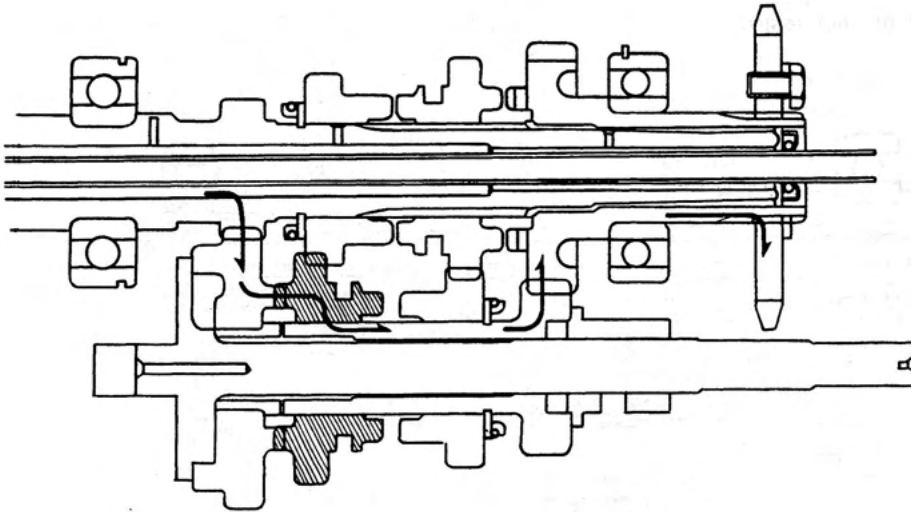

Fig. 3-6. The first
spline on the counter shaft complete can move freely axially, move this to the left side by gear shift fork to mate with low gear (Fig. 3-6) then the low gear combines with the counter shaft as one body to transmit power to the top gear (12). Here the axial movement of mainshaft gear is restricted by the gear cotter (14) and the set ring (15) but not restricted rotationally. (Similarly counter shaft 3 gear (11).